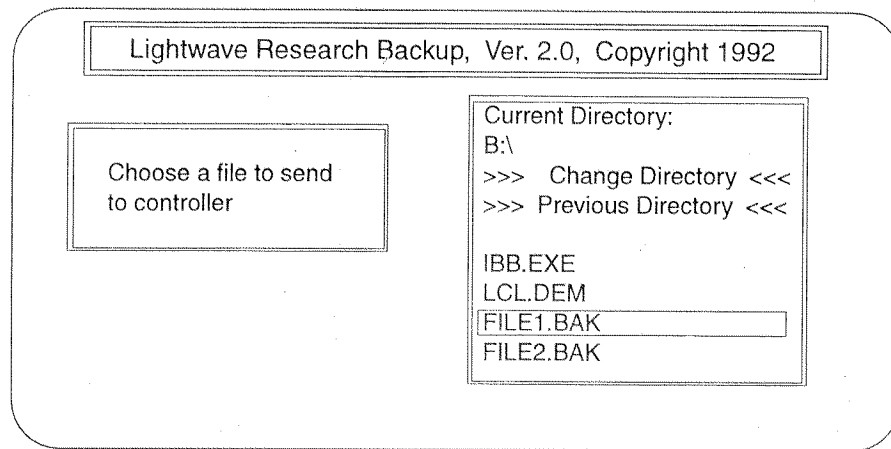

Figure 7.7. Select File Name to Upload
3. Select the "Computer -> Controller" option from the backup program opening menu using the keyboard Up/Down Arrow keys. The program then displays the current path and available files to upload similar to Figure 7.7. To change drives select the "Change Drive" entry and press the ENTER key. To go up one level in your current path select the "Previous Directory" entry and press the ENTER key.